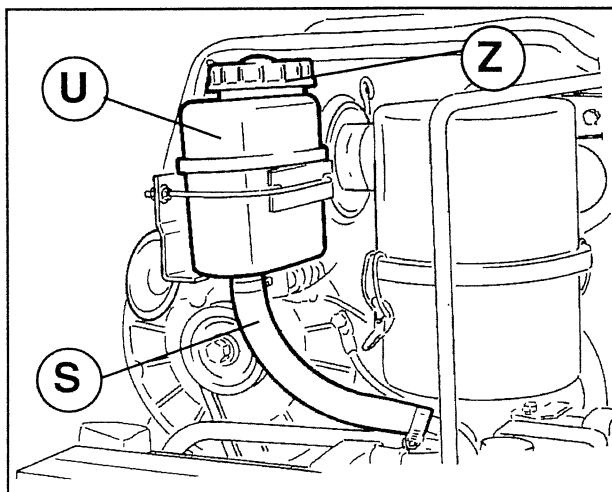

Fig. 36 Steering hydraulic circuit oil tank.
- 3) Clean the oil filter in the tank (U) which serves the steering hydraulic circuit (Fig. 36).
- 3) Change the oil in the hydraulic steering tank U (Fig. 36).